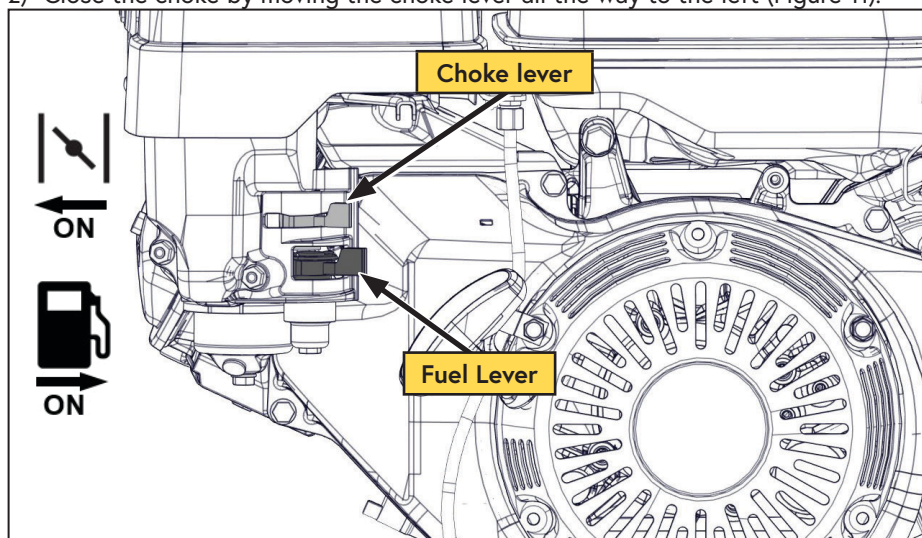

Figure 11 — Fuel and choke levers
- 2) Close the choke by moving the choke lever all the way to the left (Figure 11).
- 3) Turn on the fuel by moving the fuel shut off lever all the way to the right (Figure 11).